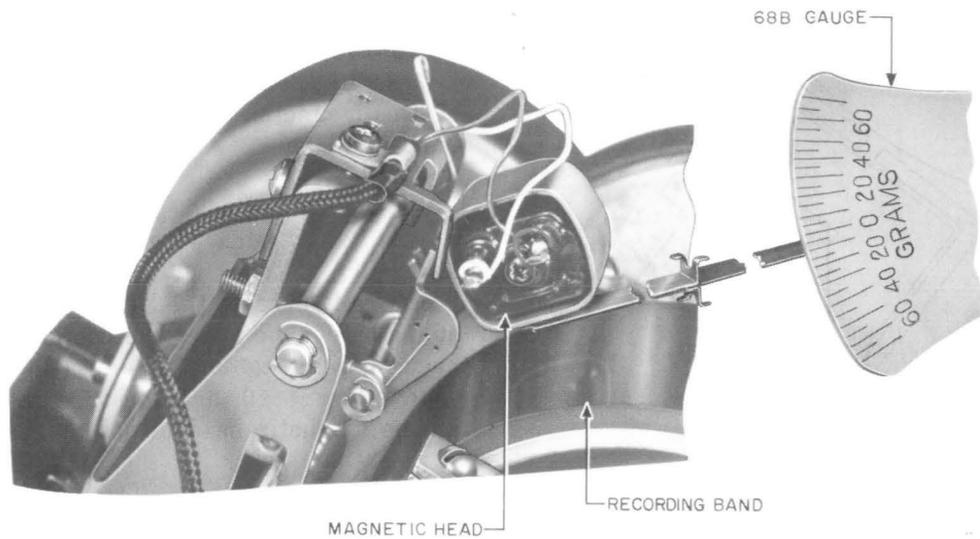

Fig. 10—Method of Gauging Magnetic Head Pressure
- #2.18 **Magnetic Head Pressure:** With the L1 solenoid electrically operated, the pressure of the magnetic head (Fig. 10) on the recording band shall be
Electrically operate the L1 solenoid. Insert the tip of the 68B gauge under the portion of the magnetic head directly to one side of the pole piece, as shown in Fig. 10, and measure the pressure just as the magnetic head leaves the band.